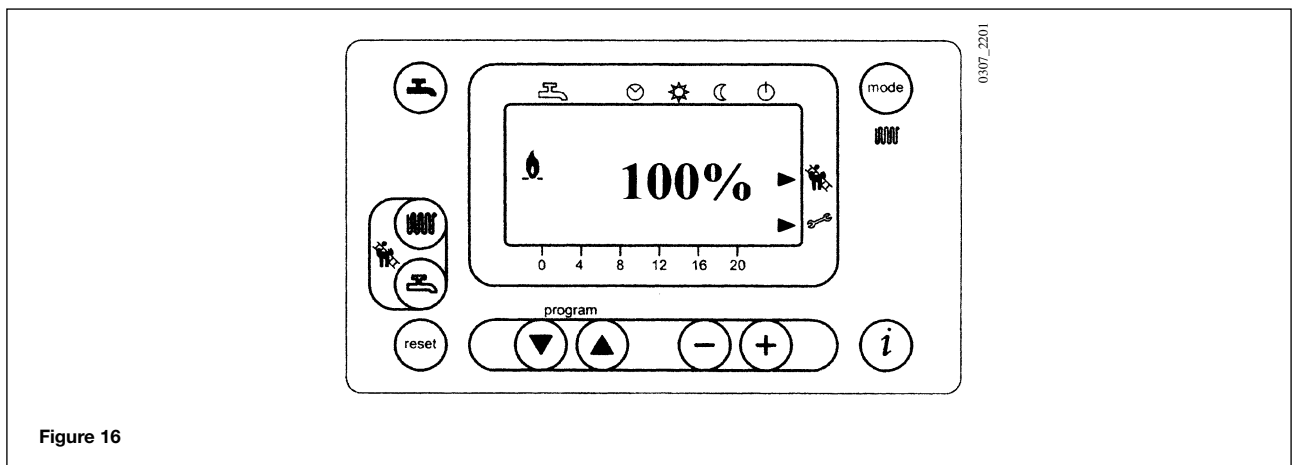

Figure 16
- 1) Press the keys (2-3) together until the display shows the pointer “▶” alongside the and symbols (about 6 seconds) (see fig. 16).